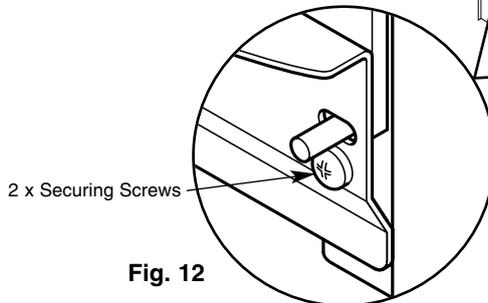

Fig. 12
4. Unscrew the two securing screws from the lower infill panel and remove the panel. Tilt the glass forwards and slide out (Fig. 12).